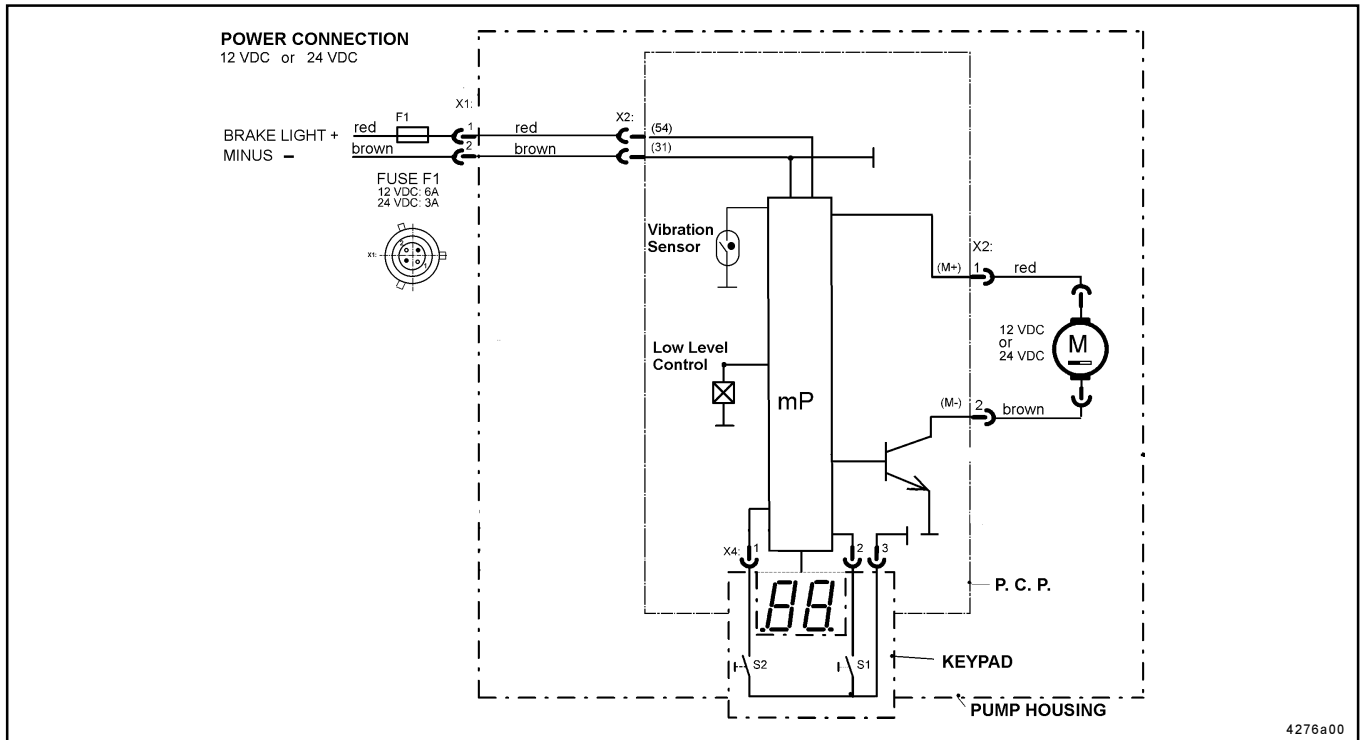

Fig. 11 - Electrical Connecting Diagram, direct current
**Caution:** When filling the reservoir avoid air pockets in the lubricant. Make sure that the follower plate seal moves above the vent hole to ensure that all air pockets are vented (see fig.11).